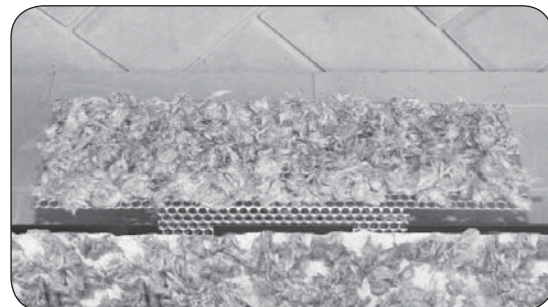

Fig. 20-2 Cover screen with embers
2. Cover the surface of the ember screen with the additional glowing embers as shown in Fig. 20-2.